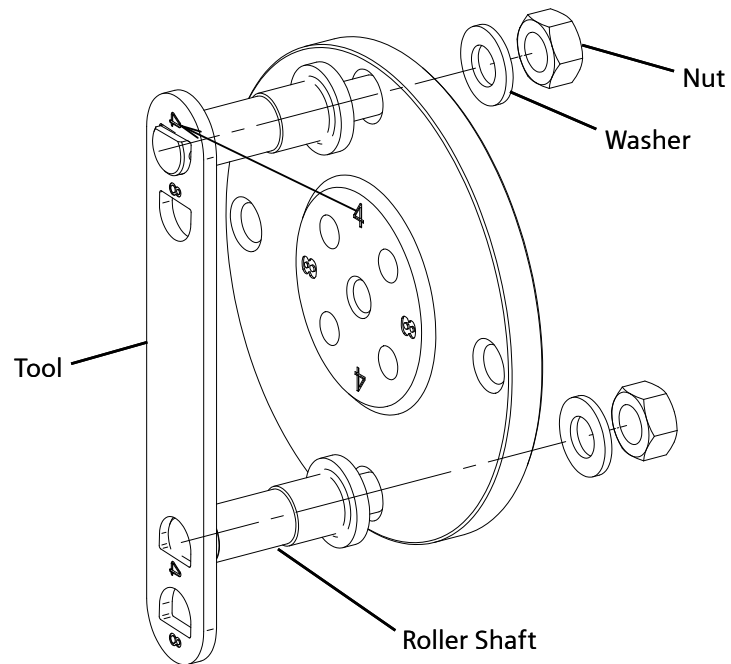

Figure 4.5 - Installation of the Roller Shafts
4.3.2 Roller Shafts Removal and Installations - Models S5, S10, and S16 (See Figure 4.5)
- d. Clean the rotor, secure it in a vise and remove the two roller shafts and discard. Note the location of the roller shafts. They are opposite its other and can be either in the holes marked "4" or "8". Refer to Figure 4.5. Take note of the location.
- g. Secure the rotor in a vise, refer to Figure 4.5, position the tool to orient the roller shaft in the correct position and keep them from turning. Note that the holes marked "4" or "8" in the tool match with holes marked "4" or "8" on the rotor. Tighten the nut 10-12 ft. lbs. and remove the tool.